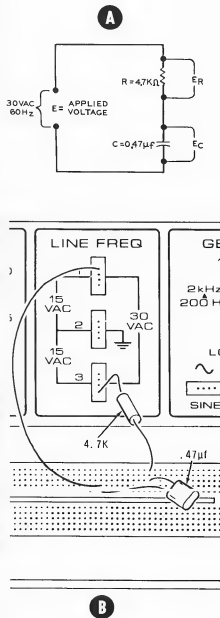
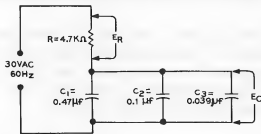
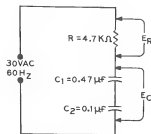

Figure 2-70
Figure 2-72
Figure 2-73
3. With the resistor and capacitor values given in Figure 2-70, and the voltage measured in step 2, compute the capacitive reactance, impedance, circuit current, resistor voltage, and capacitor voltage. Make your computations on a separate sheet of paper, then record each of these values in the spaces provided below:
8. Connect the circuit shown in Figure 2-72. You will note that this circuit is similar to the experimental circuit you constructed from Figure 2-70. The only difference is that two additional capacitors have been added. These two capacitors are connected in parallel with the $0.47 \mu\text{F}$ capacitor in the original circuit.
How does your computed value of capacitance obtained in step 9 compare with the value obtained from measurements in step 13? Explain any discrepancies. How does the total capacitance compare to the original circuit capacitance in Figure 2-70? _____.
14. Modify the wiring in your experimental circuit so that it appears as shown in Figure 2-73. Here you are connecting the 0.47 and 0.1 μF capacitors in series. The capacitor voltage in this circuit is the voltage across both capacitors. Double check the wiring of your circuit to be sure that it is exactly as shown.
15. Using the rules for computing the total capacitance of two capacitors connected in series, find the total capacitance of the circuit in Figure 2-73. Record your value below:
In steps 8 through 13, you demonstrated that the total capacitance of capacitors connected in parallel is simply the sum of the individual capacitors. In the circuit of Figure 2-72, the total circuit capacitance is:
20. In the previous steps, you have already demonstrated the effect of changing the capacitance in a circuit. By assembling the data you accumulated earlier, you will be able to see how the reactance is affected by changes in capacitance. In Figure 2-70 the total circuit capacitance is $.47 \mu\text{F}$. In Figure 2-72 the total circuit capacitance is $.609 \mu\text{F}$. In Figure 2-73 the total capacitance is $.0825 \mu\text{F}$. In each of these circuits you computed the total capacitive reactance. Record the corresponding values of reactance for each capacitor in the spaces provided below: